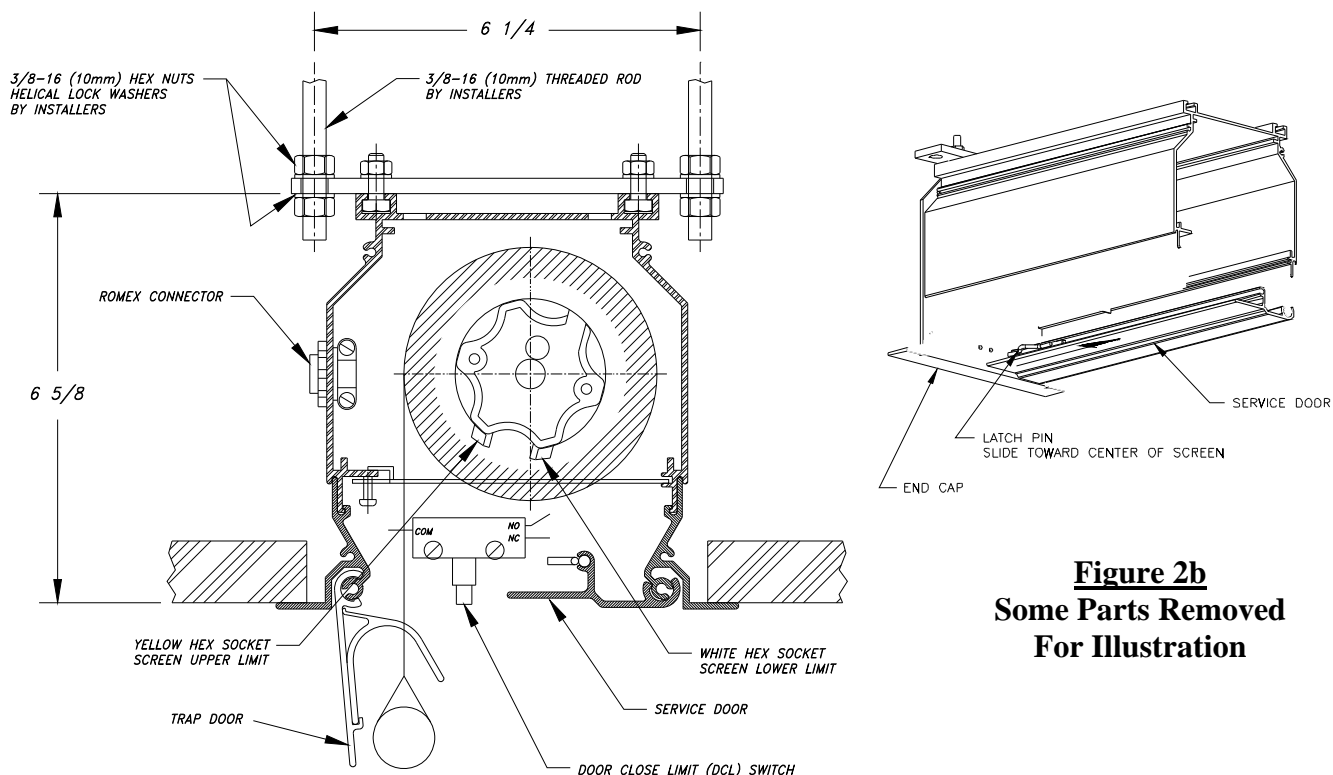
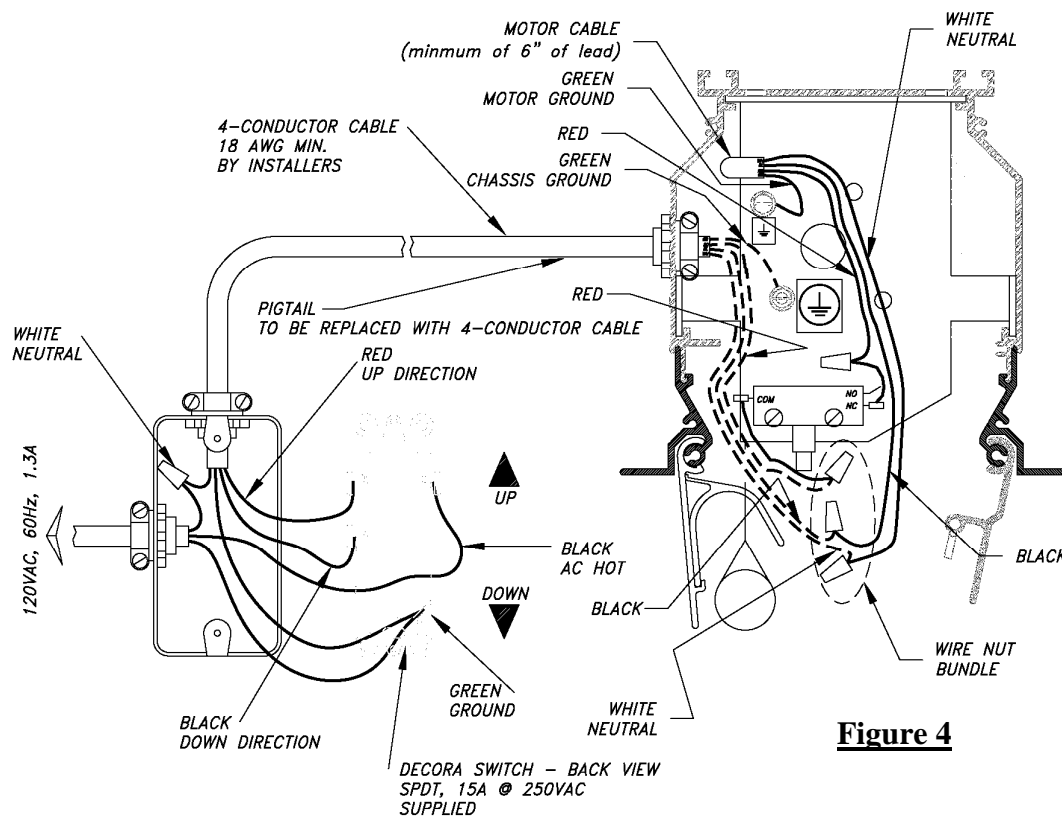

Figure 2a
Figure 4
HOUSING INSTALLATION Lectric 2 (Self-supporting fabric) and Lectric 4 (Tab-tensioned fabric) are designed for flush ceiling mount. *These units are suitable for use in environmental air space in accordance with Section 300-22 (C) of the National Electric Code, ANSI/NFPA 70, and Sections 2-128, 12-010(3) and 12-100 of the Canadian Electric Code, Part 1, CSAC22.1.* As shown in Figure 2a, Option 1 is the preferred mounting method which requires access space above the ceiling. The mounting brackets may be placed anywhere along the housing length as desired. However, it is best to evenly space them for uniform weight distribution. It is recommended the end mounting brackets should not be more than 4 inches from each end of housing. The housing has a built-in trim flange around the bottom. Ceiling tiles or drywall may be placed on top of this flange to provide a finished appearance.
If the unit was shipped complete with the motor and roller assembly inside; then there is a 4-wire pigtail provided for a quick hook-up to operate the screen. Refer to Figure 4; make the required connections to the switch for operations.
Loosen the screw of the electrical cover (Figures 5a and 5b). Remove the cover to gain access to the electrical compartment. The cover may remain inside the housing. Pull down wire nut bundle (Fig 4), disconnect pigtail.
Connect ground conductor from the 4-conductor cable to chassis ground screw (Fig 4) and hot black, red and white neutral to respect4 wires at wire nut bundle. The cable should go to location where the wall switch is to be located.
Make connections to the switch as shown in Figure 4. Perform quick test by sending the screen down half way and stop. Send the screen back up without closing the trap door then stop.
Key features of the hex socket (Figures 2a and 6) limit switch:
Referring to Figure 4, connect the switch to operate the screen.
Disconnect wires from all wire nuts. Use a 5/16" hex key to disconnect motor ground from top ground screw shown and field chassis ground shown in Fig. 4.
Reinstalling the screen roller assembly with the motor included is the reverse of the removal. Be sure the limit switches facing down as shown in Figure 2a. Re-wire following Fig 4..